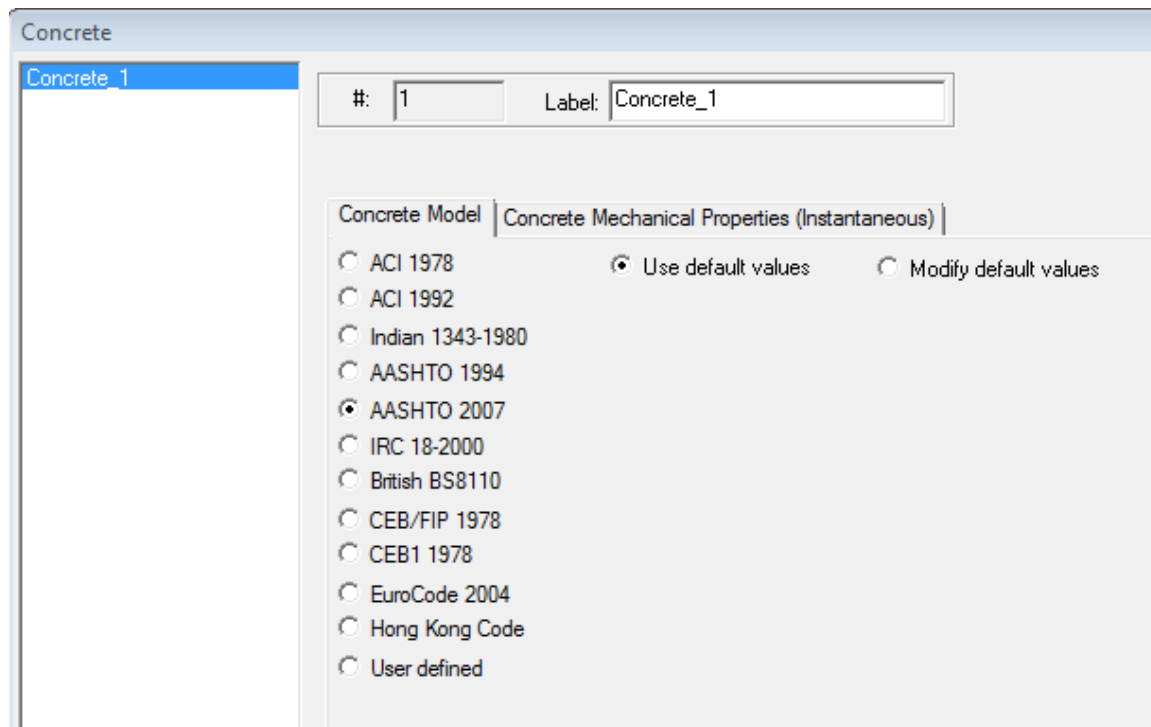

FIGURE 1.8-10 CONCRETE MATERIAL DIALOG WINDOW
Concrete. Select Concrete menu item to open the materials input dialog box (**Fig. 1.8-10**). In this dialog window, you can select concrete model and define one or more concrete material properties. Each concrete material will have its own Label. The program will give a label to each material you add to the list, but you have the option of changing the label.
If User defined concrete model option is selected you can input the shrinkage, creep and change of modulus of elasticity with time (**Fig. 1.8-10 (A)**). You have to define shrinkage curve and at least one creep curve with minimum of three readings for each curve.